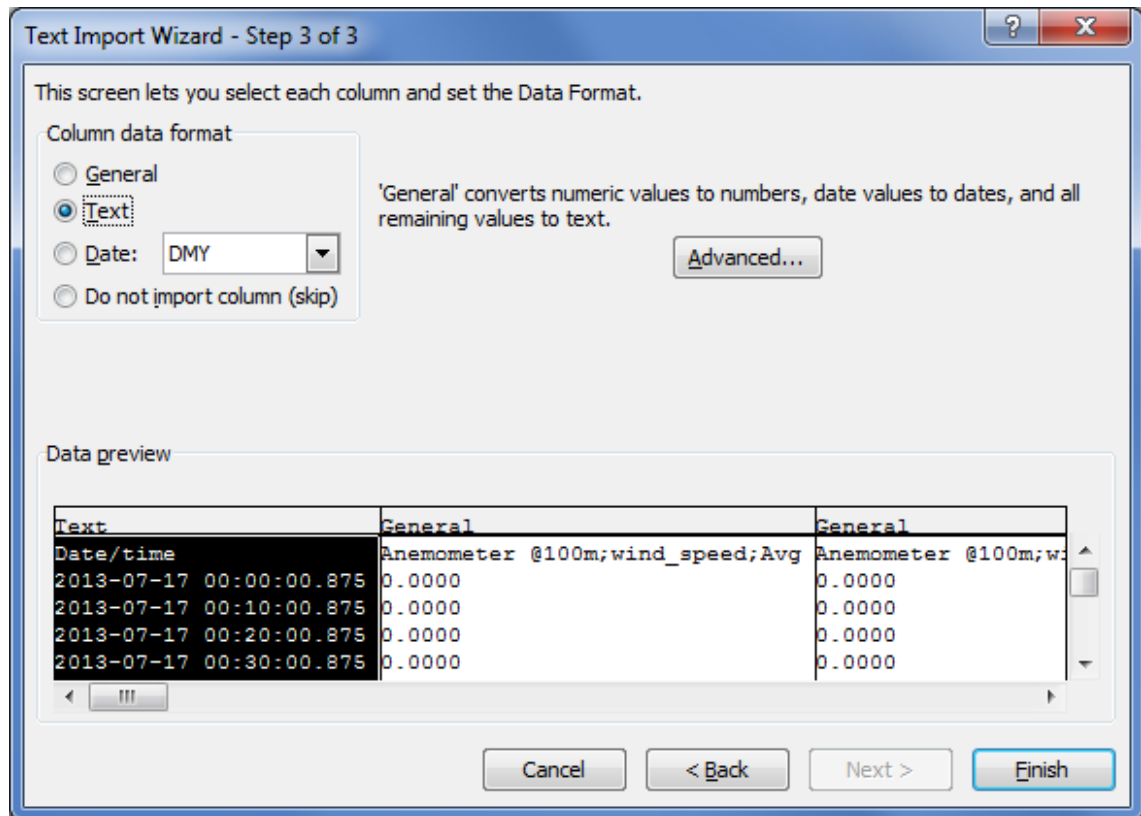

Figure 6.14: Microsoft Excel 2010™ CSV Import (5)
5. In the last step of the wizard, select *Text* for the data format columns. See Figure 6.14.